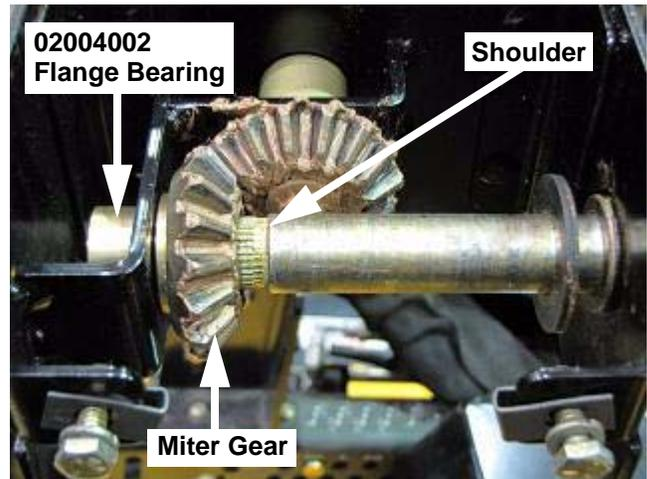

FIGURE 10
16. Position the miter gear in place in front of the 02004002 flange bearing. Push the steering wheel and steering shaft assembly into the miter gear. See Figure 10.
18. Push the steering wheel and steering shaft assembly in until the shoulder of the steering shaft (shown in Figure 10), bottoms out against the miter gear.